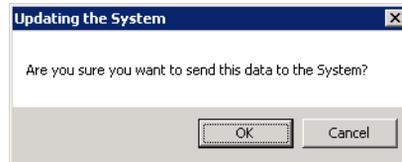

Figure 217. Confirm Update
10. When prompted to confirm this action, click **OK** to complete the update, Figure 217 and then close the Bulk Import tool.